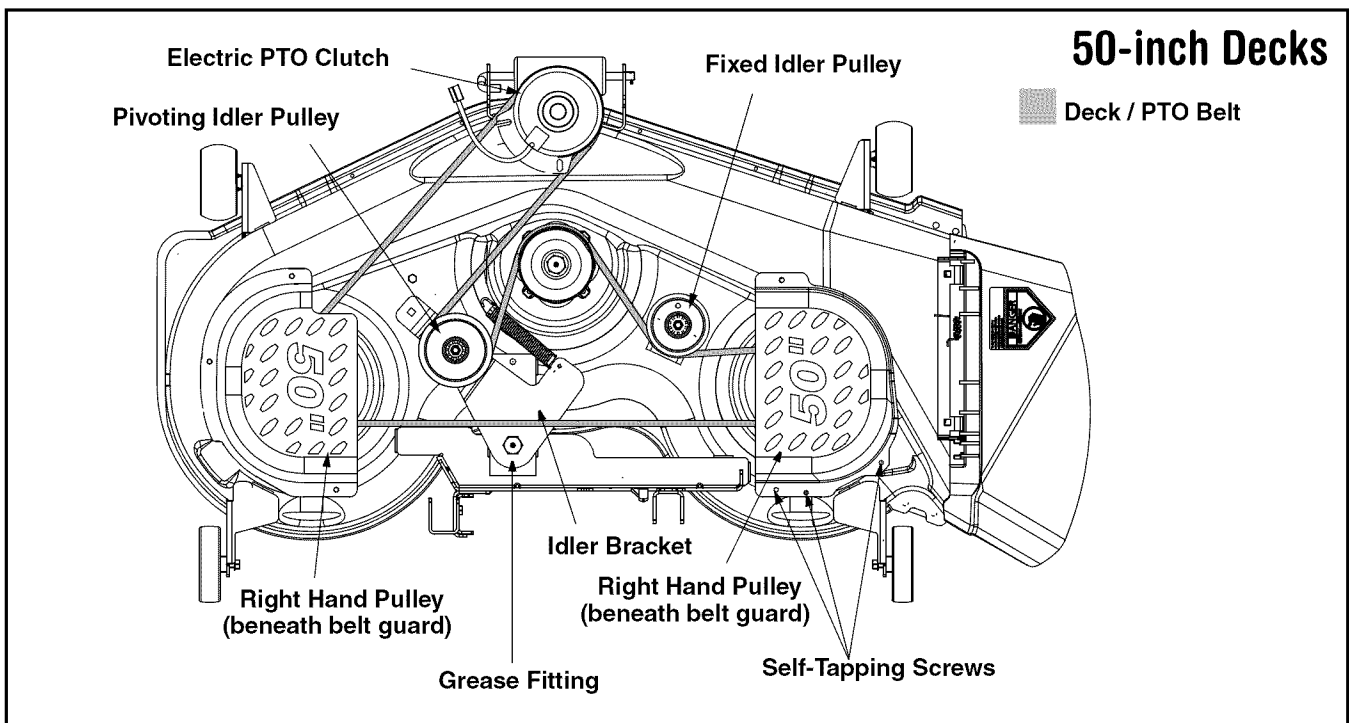

Figure 22
- Remove the deck/PTO belt from around the tractor's electric PTO clutch and idler pulleys. Refer to **Changing The Deck/ PTO Belt** and Figure 22.
- Route the new belt as shown in and Figure 22.